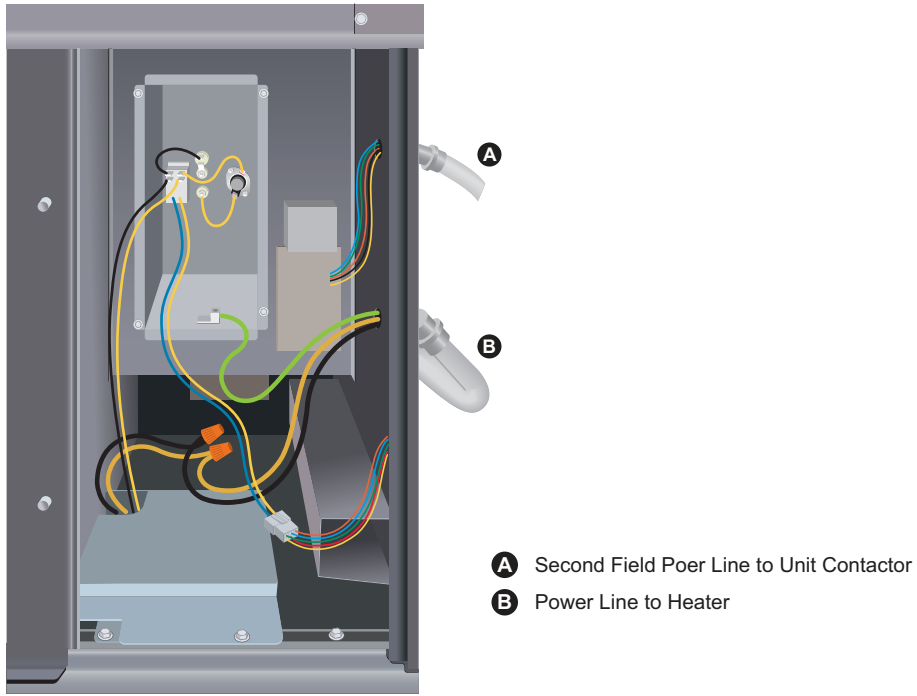
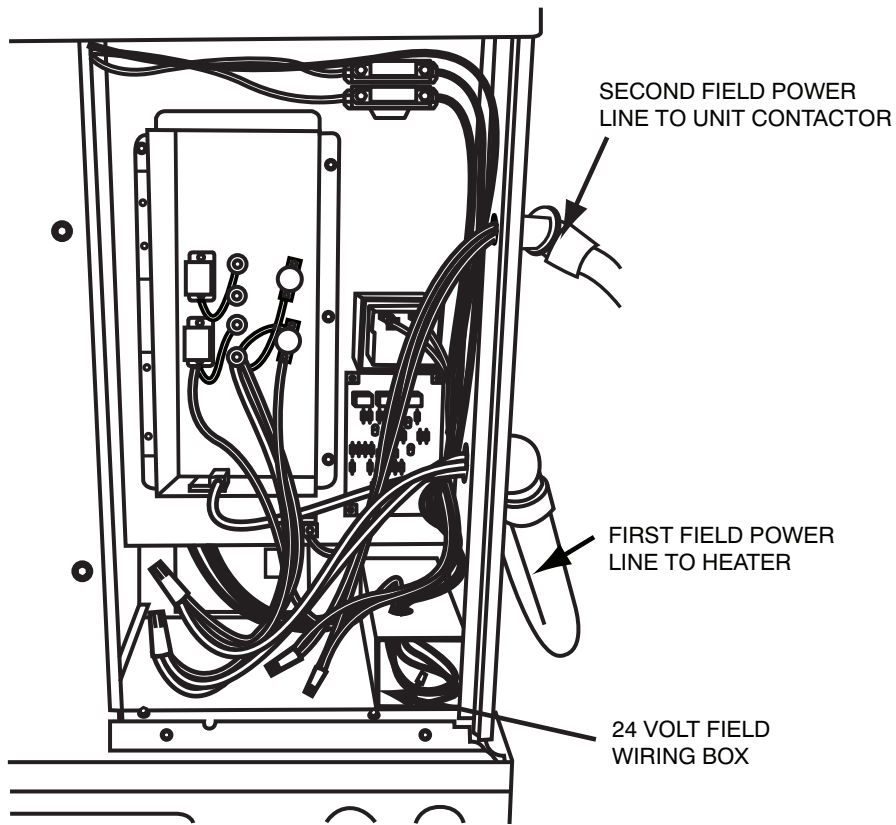

Fig. 8 - Dual Point Connections for Fused Heater
Fig. 9 - Dual Point Connection for Non-Fused Heater
3. Insert first field power line through the electrical heater access panel bottom hole (see Fig. 8 or Fig. 9) and connect to electric heater as shown in their respective wiring diagram found on the heater accessory kit. Fused electrical heaters field lines will be connected to the fuse block lugs (see Fig. 10.) and non fused electric heater field lines will be connected to heater leads using wire nuts. Ground electrical equipment in the appropriate locations. Seal all openings to prevent air leaks.
4. Insert second field power line through the electrical heater access panel top hole (see Fig. 8 or Fig. 9) and connect to unit contactor black and yellow leads using wire nuts. Ground electrical equipment in the appropriate locations.